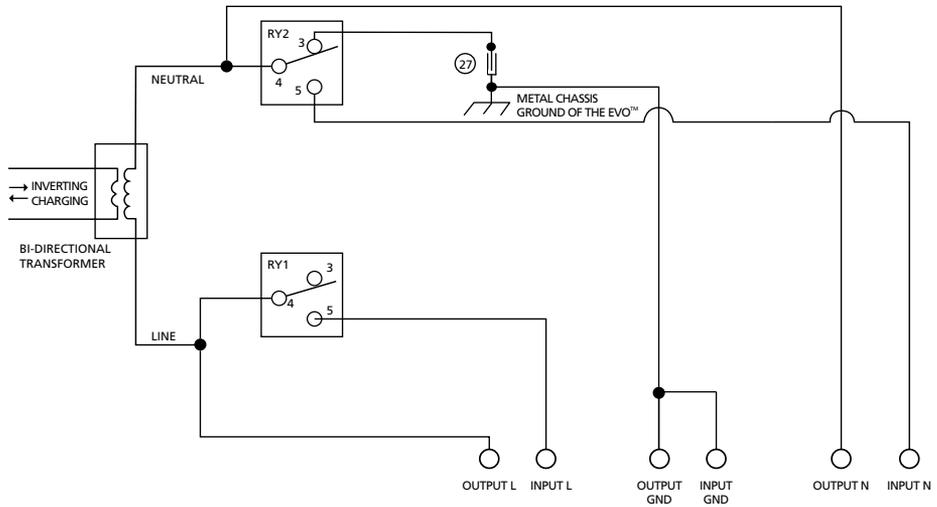

Fig 4.1 Operation of Transfer Relay and Neutral to Ground Bond Switching
Transfer Relay Section is used to either feed AC power to the Battery Charger Section and at the same time, pass through the AC power from the external AC input power source to the load (As long as the external AC input power is available and is within the programmed limits of voltage and frequency) or to transfer the load to the Inverter Section (In case of loss of the external AC input power source or if this source is not within the programmed limits of voltage and frequency). Typical transfer time is 16 milliseconds from Grid/Generator to Inverter and <1ms from Inverter to Grid / Generator. Heavy duty 30A. Transfer Relay (RY1, Fig 4.1) is used for reliable transfer of up to 300% surge power. A separate Relay (RY2, Fig 4.1) is used for Neutral to Ground Bond Switching.
As required by NEC and UL Standard 458, automatic switching of bonding between the Output Neutral and Chassis Ground has been provided in EVO™ through “Output Neutral to Chassis Ground Bond Switching Relay” (RY2 in Figs 4.1). Switching of bonding is carried out as follows:
- When operating as an inverter, the current carrying conductor of the Inverter Section that is connected to the Output Neutral terminal of EVO™ is bonded to the metal chassis of EVO™ by the “Output Neutral to Chassis Ground Bond Switching Relay” (RY2 in Figs 4.1). As the metal chassis of EVO™ is in turn bonded to the Earth Ground (in shore installations) or to the RV Ground (chassis of the RV) or to the Boat Ground (DC Negative Grounding Bus Bar and the Main AC Grounding Bus Bar are tied together in a boat and this is called the “Boat Ground”), this current
- When in Charging Mode, the Neutral conductor of the Grid power/Generator will be connected to the Output Neutral terminal of EVO™. At the same time, the “Output Neutral to Chassis Ground Bond Switching Relay” (RY2 in Figs 4.1) will unbond (disconnect) the Output Neutral connector of EVO™ from the metal chassis of EVO™. This will ensure that the Grounded Conductor (GC) i.e. the Neutral of the Grid power/Generator is bonded to the Earth Ground at one single point at the location of the AC Power Distribution System of the Marina/RV Park/Shore Power.
- **Disabling Neutral to Ground Bond:** In some applications, the Output Neutral of EVO™ may be required to remain isolated from the chassis/Ground at all times. For this, automatic Output Neutral to Ground bond can be disabled by disconnecting the Insulated Male/Female Quick Disconnect located in the AC wiring compartment of EVO-1212F-HW / 1224F-HW. [Please see (i) 27, Fig 3.9.2(a) and (ii) 27, Fig 4.1]. In EVO-1212F / 1224F, this Insulated Male / Female Quick Disconnect is accessible after opening the top cover of the unit.
Refer to Schematic at Fig 4.1 .
- 30A rated SPDT Relay RY1 (Fig 4.1) is used to switch the Hot Output Connector (**OUTPUT L**) to either the Inverter Section or to Grid / Generator.
- When Grid / Generator input Power is available, Relay RY1 (Fig 4.1) will be energized and contact 4 switches over to contact 5. The Bidirectional Transformer works as a battery Charger. The Hot AC input from Grid / Generator (INPUT L) is fed to the Hot input of the Bi-directional Transformer for battery charging and at the same time, it is passed through to the Hot Out (OUTPUT L) for powering the AC loads.
- When Grid / Generator power fails, Relay RY1 (Fig 4.1) will be de-energized and contact 4 switches back to contact 3. Output from the Inverter Section is fed to the Bi-directional Transformer and onwards to the Hot Out (OUTPUT L) for powering the AC loads.
- 30A rated SPDT Relay RY2 (Fig 4.1) is used to switch the bonding of the Output Neutral Connector (OUTPUT N) to the chassis of the unit
- When Grid / Generator input power is available, Relay RY2 (Fig 4.1) will be energized and contact 4 switches over to contact 5. Neutral input from Grid (GRID N) is fed to the Neutral input of the Bi-directional Transformer for battery charging and at the same time, it is passed through to the Output Neutral (OUTPUT N) for powering the AC loads. Please note that in this condition, the Output Neutral (OUTPUT N) is isolated from the chassis of the unit
- When Grid / Generator input power fails, Relay RY2 (Fig 4.1) will be de-energized and contact 4 switches back to contact 3. Neutral output from the Inverter Section is fed the Neutral of the Bi-directional Transformer and onwards to the output Neutral (OUTPUT N) for powering the AC loads. At the same time, the output Neutral (OUTPUT N) gets bonded to the metal chassis of the unit through the mated contacts of the Insulated Male / Female Quick Disconnect (27, Fig 4.1) located in the AC Wiring Compartment [27, Fig 3.9.2(a)] in EVO-1212F-HW / 1224F-HW. In EVO-1212F / 1224F, the Insulated Male / Female Quick Disconnect is accessible after opening the top cover of the unit.
LEGEND for Fig 4.1